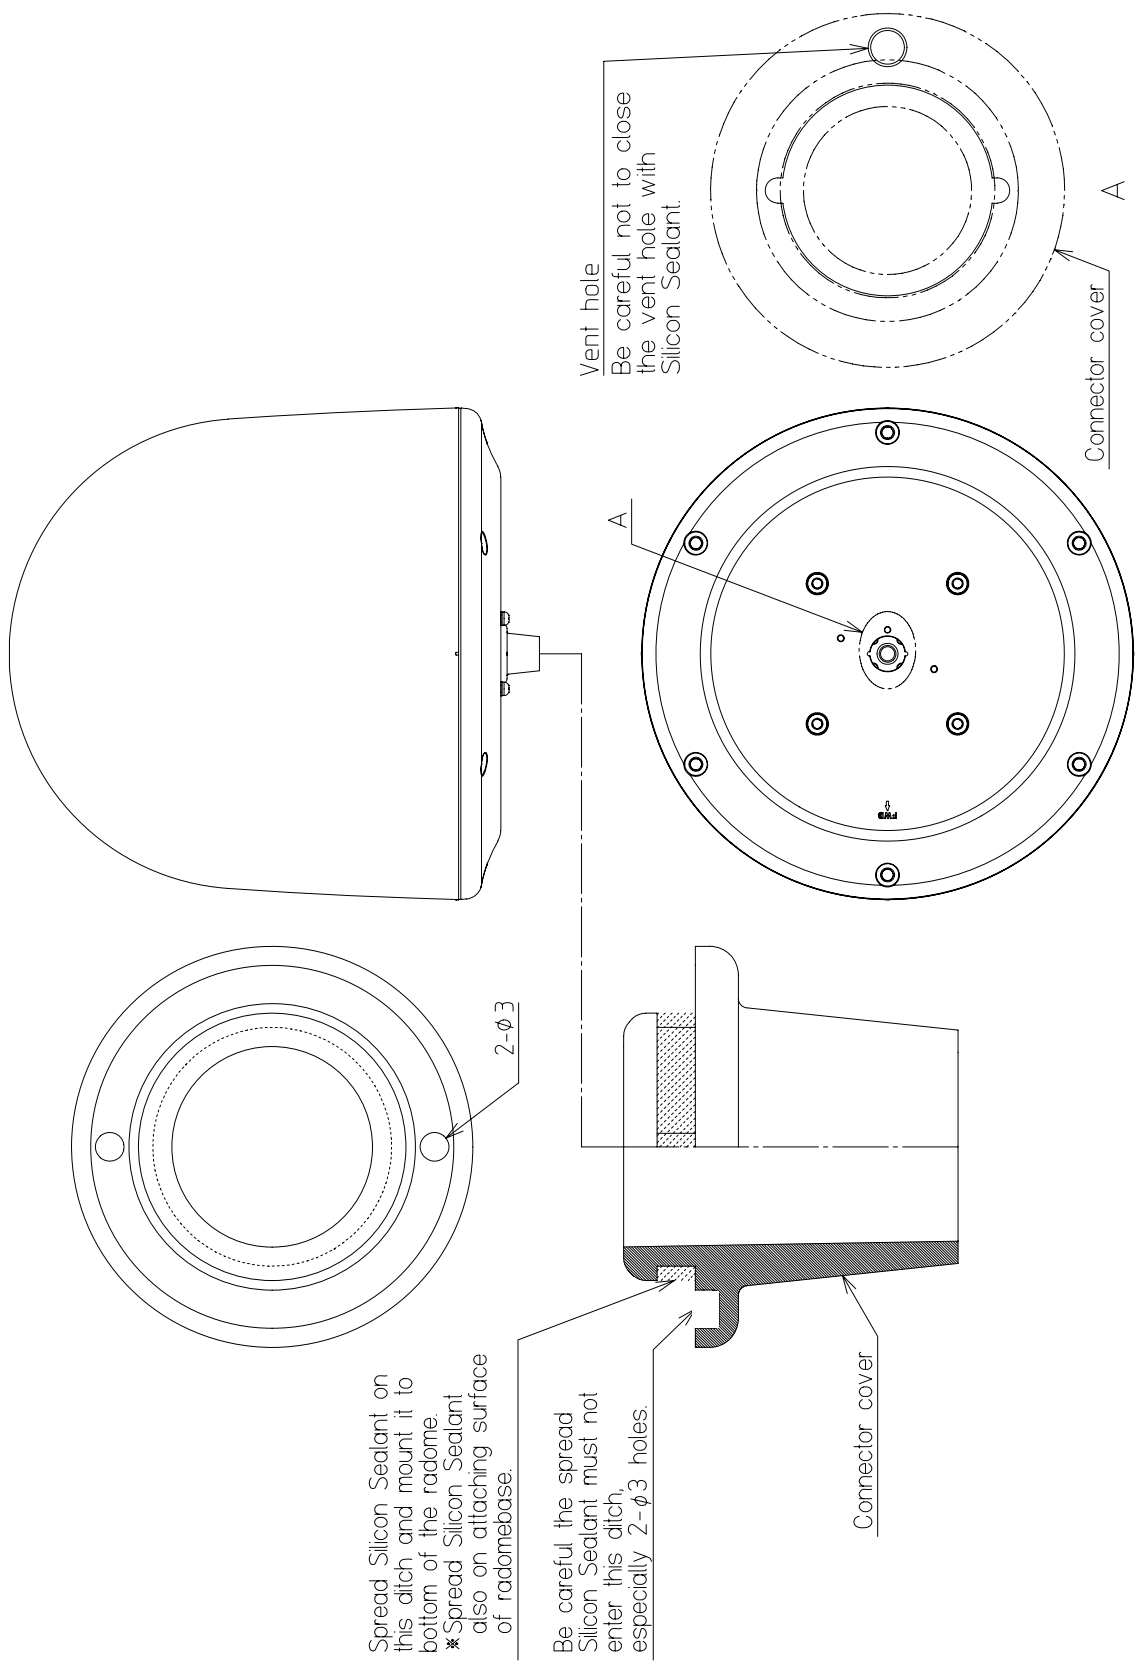

Fig.3-1-1b Spreading Silicon Sealant (Installation Example1)
- (2) Put through the ADE-BDE cable (coaxial cable) into connector cover.
- (3) Attach the Coaxial cable to the connector of the bottom of radome.
- (4) Spread the silicon sealant on the ditch in the upper part of connector cover in the proper quantity, and install it at the bottom of radome. At this time, confirm that the vent hole is not sealed with the silicon sealant very well. (Refer to Fig. 3-1-1b or Fig. 3-1-2b.)
- (6) Stick absorption sheets on the top of the installation pole. (Refer to Fig. 3-1-1b or 3-1-2b.)